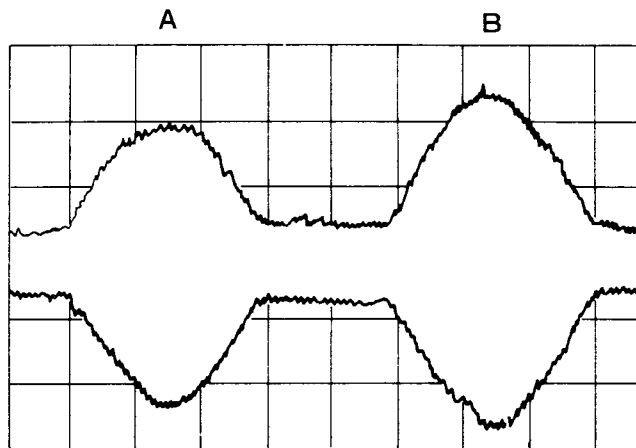
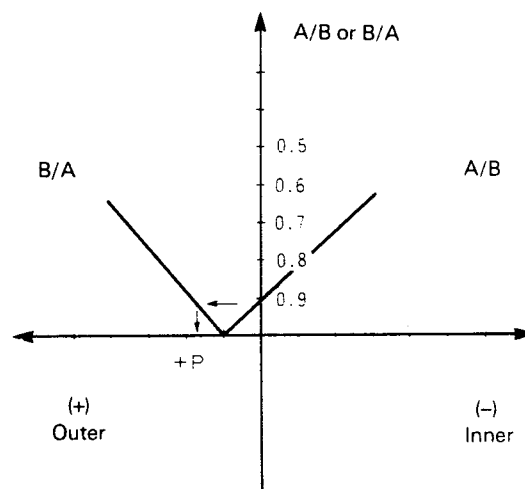

Fig. 4.15.1
Fig. 4.15.2
5. Step the head/carriage from Track 31 to 32. Obtain A/B or B/A, the ratio between the two amplitude lobes on the scope. Convert the ratio to a position on the CE disk conversion chart. The positioning error should be within  $\pm 25 \mu\text{m}$ . (See Fig. 4.15.1, Fig. 4.15.2.)
5. Load the read/write heads against the disk. Insert a screwdriver through the notch in the PWB (Fig. 4.15.3) and move the stepper in or out to obtain the position signal shown in Fig. 4.15.1.